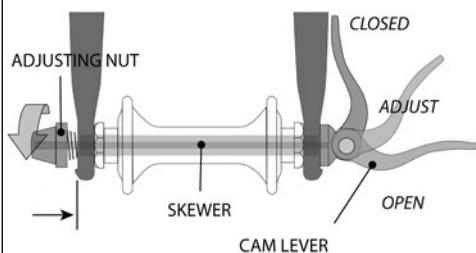
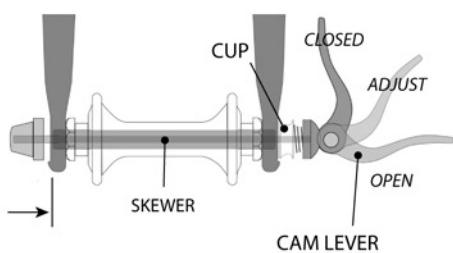
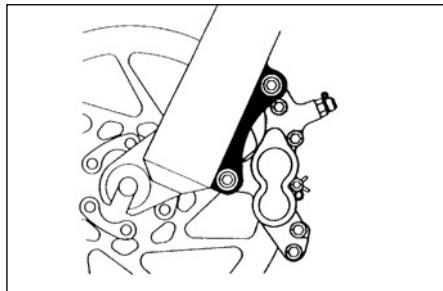
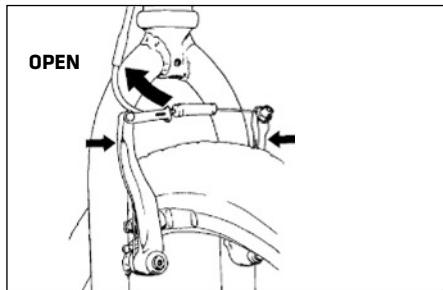

FIGURE 8a
FIGURE 8b
Figure 11.
Figure 12.
- A hollow axle with a shaft ("skewer") running through it which has an adjustable tension nut on one end and an over-center cam on the other (cam action system, fig.8a & 8b).
There are currently two types of over-center cam wheel retention mechanisms: the traditional over-center cam (fig. 8a) and the cam-and-cup system (fig. 8b). Both use an over-center cam action to clamp the bike's wheel in place. Your bicycle may have a cam-and-cup front wheel retention system and a traditional rear wheel cam action system.
### a. Adjusting the traditional cam action mechanism (fig. 8a)
### **b. Adjusting the cam-and-cup mechanism (fig. 8B)**
- (1) If your bike has rim brakes, disengage the brake's quick-release mechanism to increase the clearance between the tire and the brake pads (See Section 4.C fig. 11 through 15).
- (2) If your bike has cam action front wheel retention, move the cam lever from the locked or CLOSED position to the OPEN position (figs. 8a & b). If your bike has through bolt or bolt-on front wheel retention, loosen the fastener(s) a few turns counter-clockwise using an appropriate wrench, lock key or the integral lever.
- (3) If your front fork has a clip-on type secondary retention device, disengage it. If your front fork has an integral secondary retention device, and a traditional cam action system (fig. 8a) loosen the tension adjusting nut enough to allow removing the wheel from the dropouts. If your front wheel uses a cam-and-cup system, (fig. 8b) squeeze the cup and cam lever together while removing the wheel. No rotation of any part is necessary with the cam-and-cup system.
- (1) If your bike has cam action front wheel retention, move the cam lever so that it curves away from the wheel (fig. 8b). This is the OPEN position. If your bike has through bolt or bolt-on front wheel retention, go to the next step.
- (2) With the steering fork facing forward, insert the wheel between the fork blades so that the axle seats firmly at the top of the fork dropouts. The cam lever, if there is one, should be on rider's left side of the bicycle (fig. 8a & b). If your bike has a clip-on type secondary retention device, engage it.
- (3) If you have a traditional cam action mechanism: holding the cam lever in the ADJUST position with your right hand, tighten the tension adjusting nut with your left hand until it is finger tight against the fork dropout (fig. 8a). If you have a cam-and-cup system: the nut and cup (fig. 8b) will have snapped into the recessed area of the fork dropouts and no adjustment should be required.
- (4) While pushing the wheel firmly to the top of the slots in the fork dropouts, and at the same time centering the wheel rim in the fork:
- (a) With a cam action system, move the cam lever upwards and swing it into the CLOSED position (fig. 8a & b). The lever should now be parallel to the fork blade and curved toward the wheel. To apply enough clamping force, you should have to wrap your fingers around the fork blade for leverage, and the lever should leave a clear imprint in the palm of your hand.
- (2) If your bike has rim brakes, disengage the brake's quick-release mechanism to increase the clearance between the wheel rim and the brake pads (see Section 4.C, figs. 11 through 15).
- (3) On a derailleuer gear system, pull the derailleuer body back with your right hand.
- (4) With a cam action mechanism, move the quick-release lever to the OPEN position (fig. 8b). With a through bolt or bolt on mechanism, loosen the fastener(s) with an appropriate wrench, lock lever or integral lever; then push the wheel forward far enough to be able to remove the chain from the rear sprocket.
- (5) Lift the rear wheel off the ground a few inches and remove it from the rear dropouts.
Some bikes are equipped with a cam action seat post binder. The seat post cam action binder works exactly like the traditional wheel cam action fastener (Section 4.A.2) While a cam action binder looks like a long bolt with a lever on one end and a nut on the other, the binder uses an over-center cam action to firmly clamp the seat post (see fig. 8a).
3. Some bicycle brakes, such as disc brakes (fig. 11) and linear-pull brakes (fig. 12), are extremely powerful. Take extra care in becoming familiar with these brakes and exercise particular care when using them.
Most rim brakes have some form of quick-release mechanism to allow the brake pads to clear the tire when a wheel is removed or reinstalled. When the brake quick release is in the open position, the brakes are inoperative. Ask your dealer to make sure that you understand the way the brake quick release works on your bike (see figs. 12, 13, 14 & 15) and check each time to make sure both brakes work correctly before you get on the bike.